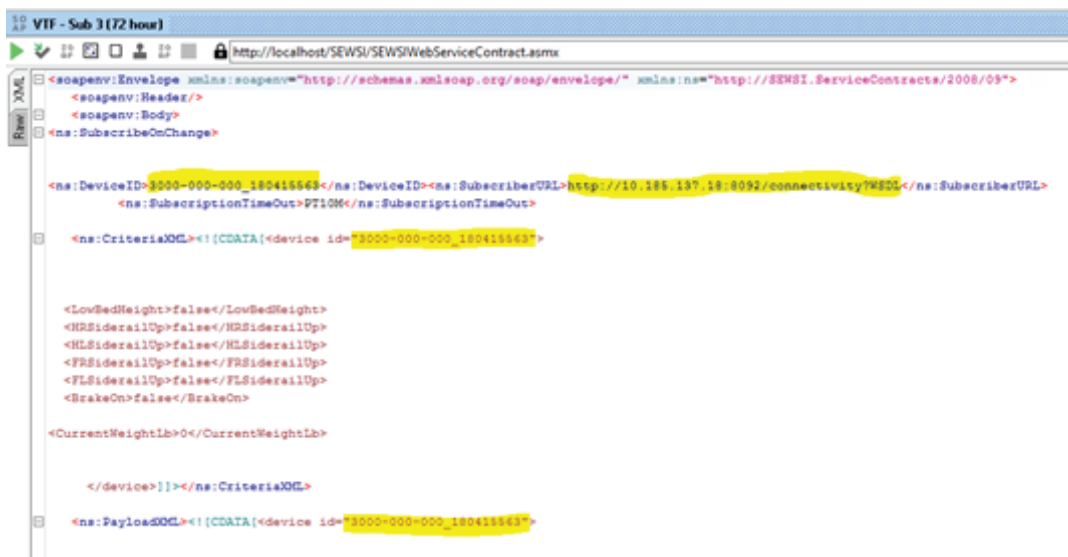

Figure 68 – VTF - Sub 3 (72 hour)
- c. Modify the Subscriber URL with the URL from step 3 (Figure 68).
- d. Change the Device ID to the Device ID being searched for (Figure 68).